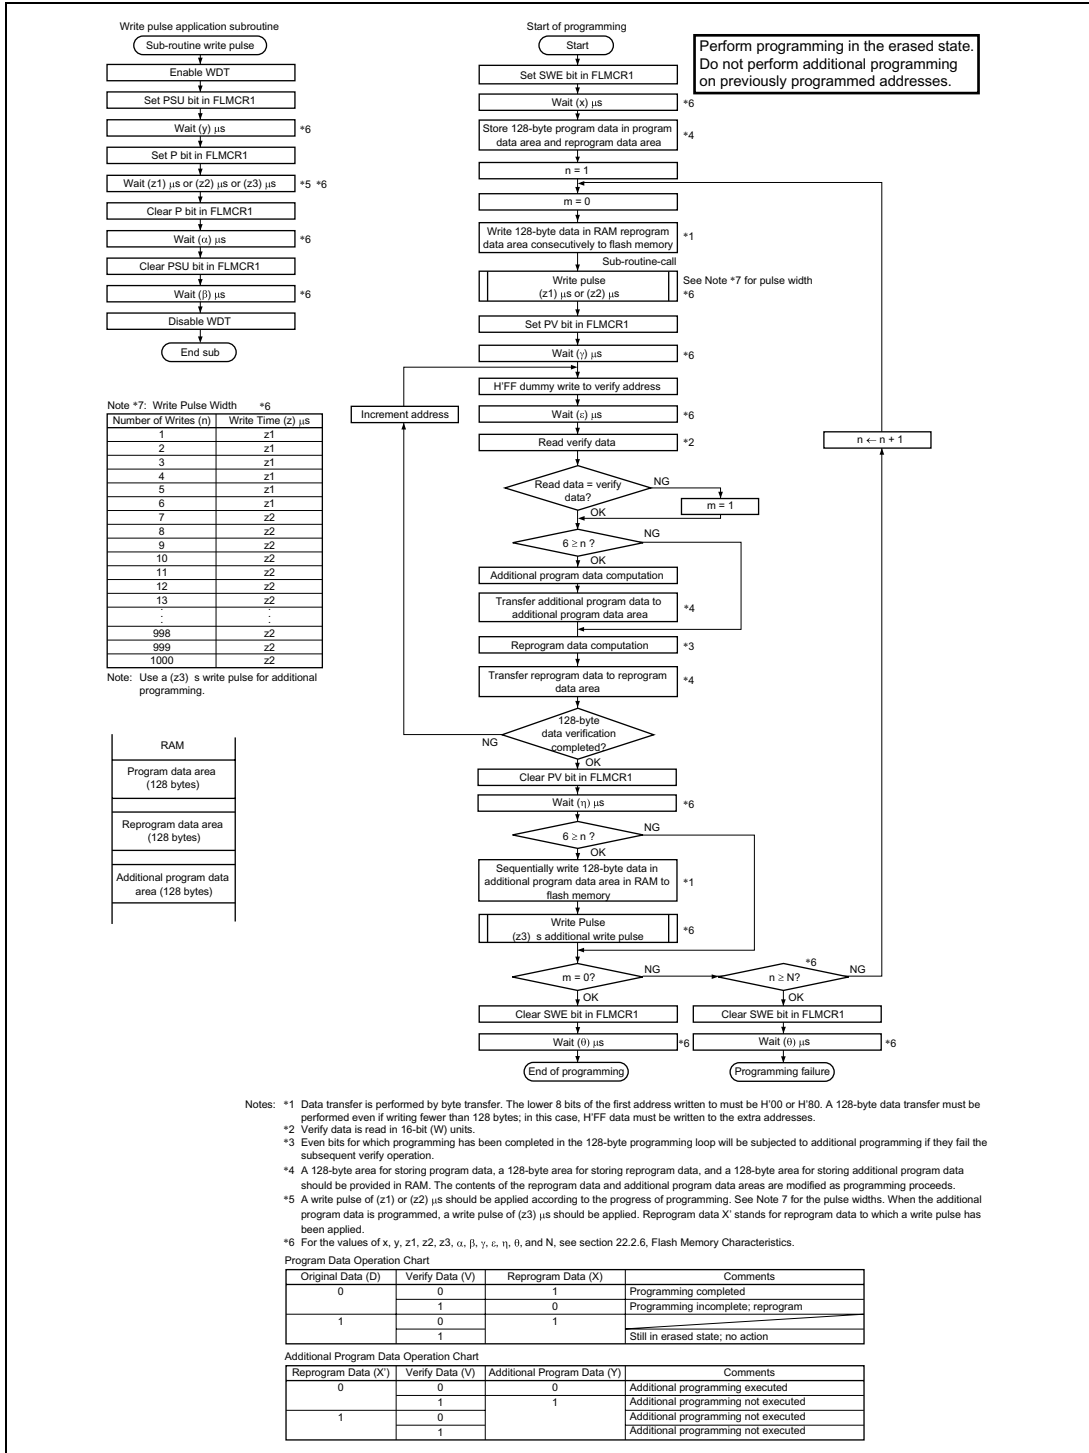

Figure 19-41 Program/Program-Verify Flowchart
After the elapse of a given programming time, the programming mode is exited (the P bit in FLMCR1 is cleared to 0, then the PSU bit is cleared to 0 at least (α) μ s later). Next, the watchdog timer is cleared after the elapse of (β) μ s or more, and the operating mode is switched to program-verify mode by setting the PV bit in FLMCR1. Before reading in program-verify mode, a dummy write of H'FF data should be made to the addresses to be read. The dummy write should be executed after the elapse of (γ) μ s or more. When the flash memory is read in this state (verify data is read in 16-bit units), the data at the latched address is read. Wait at least (ϵ) μ s after the dummy write before performing this read operation. Next, the originally written data is compared with the verify data, and reprogram data is computed (see figure 19-41) and transferred to the reprogram data area. After 128 bytes of data have been verified, exit program-verify mode, wait for at least (η) μ s, then clear the SWE bit in FLMCR1 to 0, and wait again for at least (θ) μ s. If reprogramming is necessary, set program mode again, and repeat the program/program-verify sequence as before. However, ensure that the program/program-verify sequence is not repeated more than (N) times on the same bits.